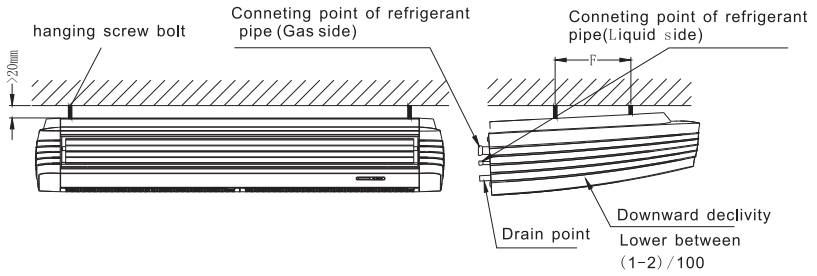

Fig 16
■ Hang the unit on the hanging arm by sliding backward. Securely tighten the mounting bolts on both sides (Refer to Fig 16)